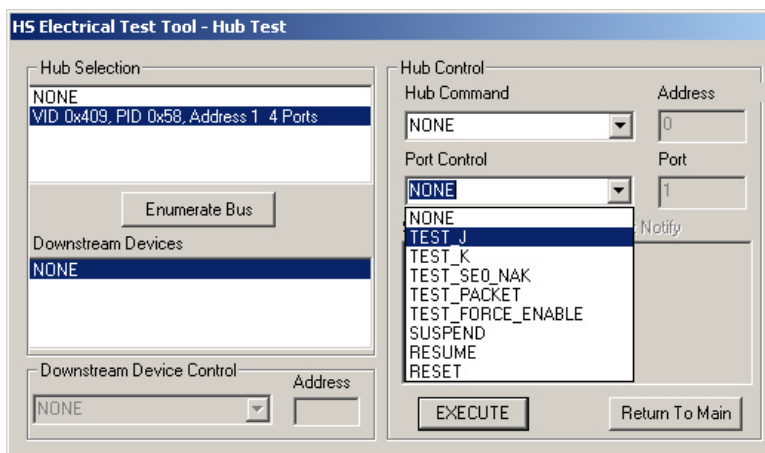

Figure 54. Hub Downstream Port TEST_J
- a. Select TEST_J from the Port Control drop down menu. (Figure 54)